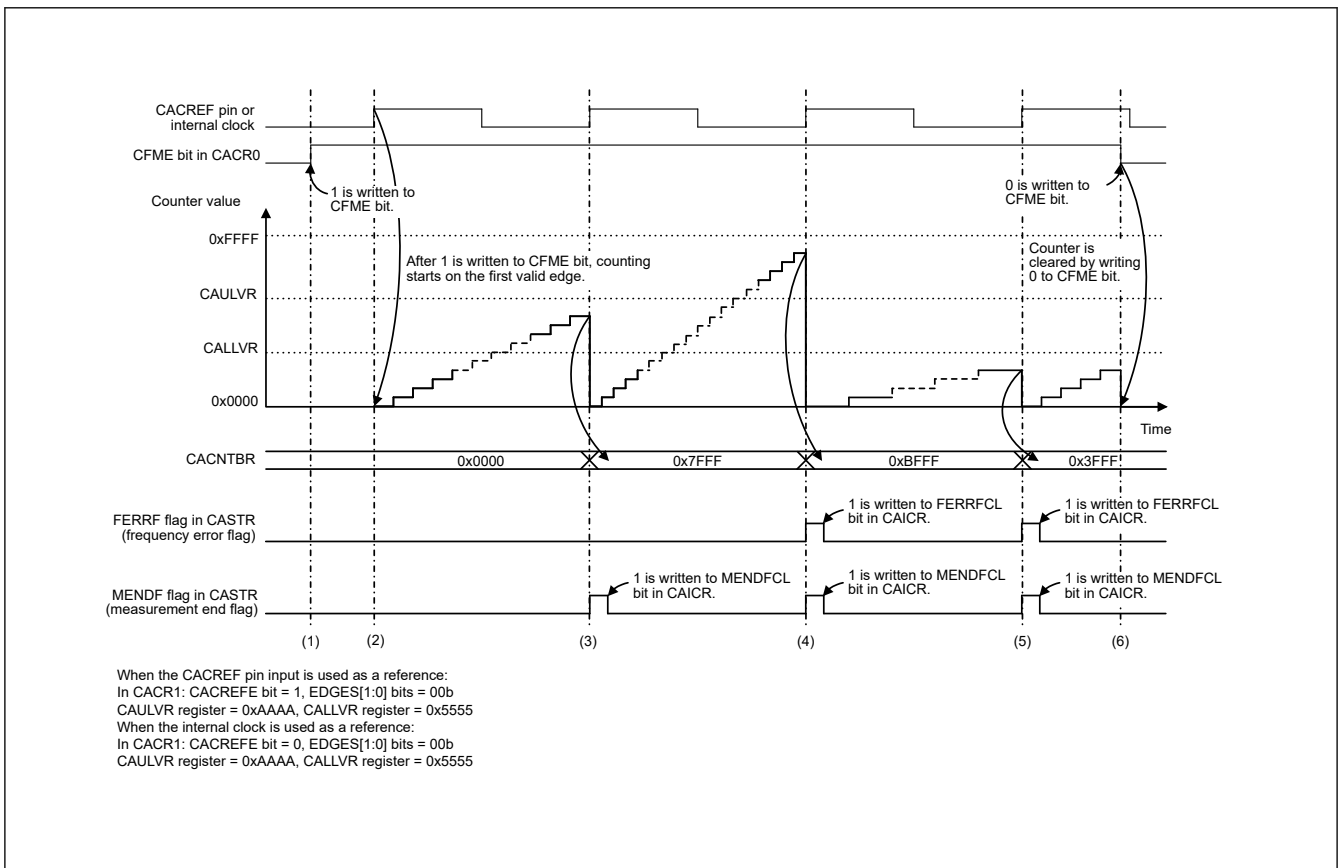

Figure 10.2 CAC operating example
The CAC measures the clock frequency using the CACREF pin input or an internal clock as a reference. Figure 10.2 shows an operating example of the CAC.
The events in Figure 10.2 are:
2. When the CACREF pin input is used as reference, after 1 is written to the CFME bit, the timer starts up-counting if the valid edge selected by the CACR1.EDGES[1:0] bits (rising edge (CACR1.EDGES[1:0] = 00b) in Figure 10.2) is input from the CACREF pin. When the internal clock is used as reference, after 1 is written to the CFME bit, the timer starts up-counting if the valid edge selected by the CACR1.EDGES[1:0] bits (rising edge (CACR1.EDGES[1:0] = 00b) in Figure 10.2) is input based on the clock source selected by the CACR2.RSCS[2:0] bits.